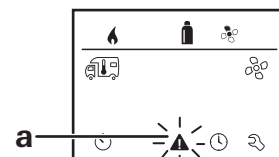

Fig. 25
1. Select the icon ("Fig. 25") with the rotary push button.
i In this case, the error is not acknowledged in the CP plus VarioHeat and the warning icon (Fig. 25) remains. The appliance remains in error status. Other connected appliances can be operated.
1. Select the warning symbol (Fig. 25) with the rotary push button.